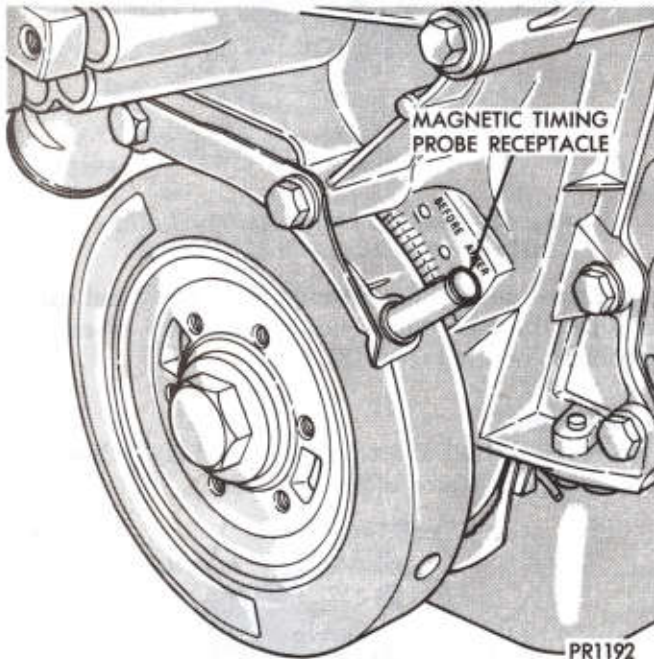

Fig. 8—Timing Marks
(6) Aim Timing Light at front crankshaft pulley (Fig. 8) or read magnetic timing unit. If flash occurs when timing mark is before specified degree mark, timing is advanced. To adjust, turn distributor housing in direction of rotor rotation.